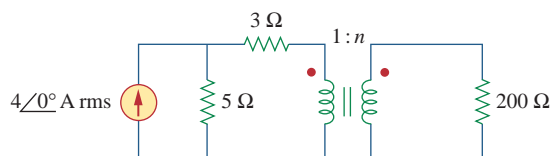

Figure 13.118
- 13.53** Refer to the network in Fig. 13.118.